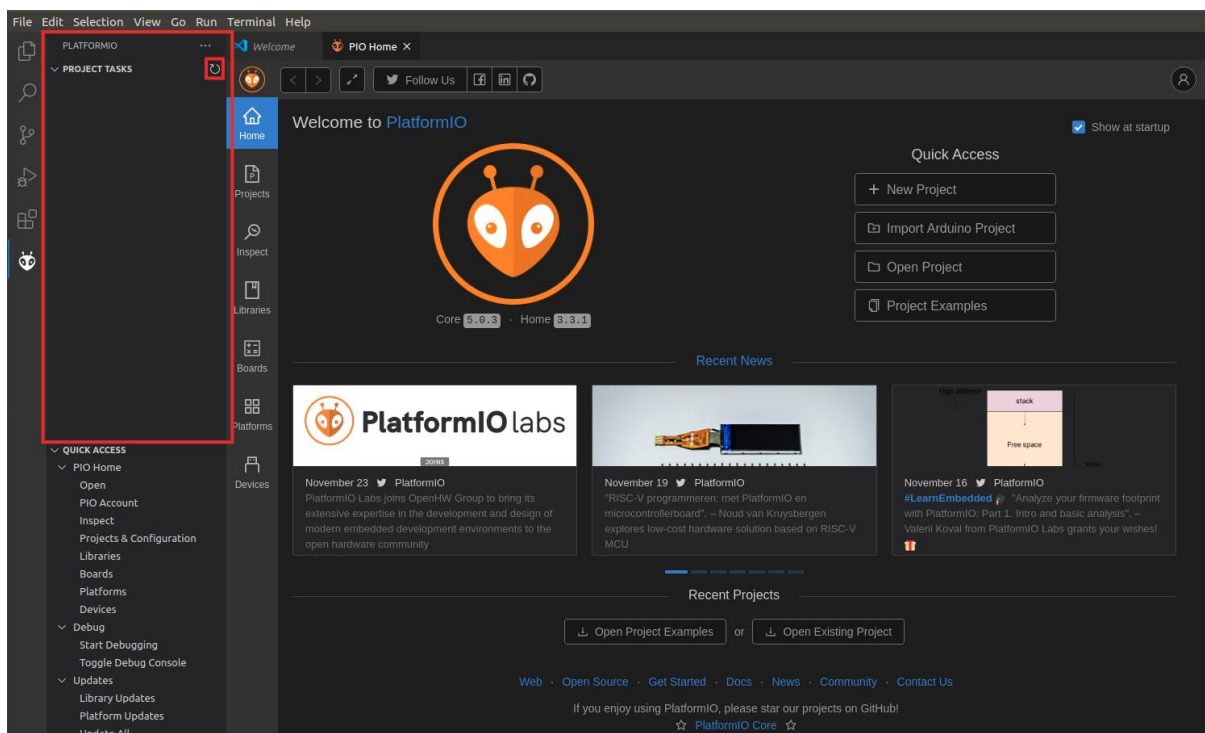

Figure 13. PROJECT TASKS window empty – Refresh
- In case the Project Tasks window is empty (Figure 13), you must refresh the Project Tasks first by clicking on . This can take several minutes.